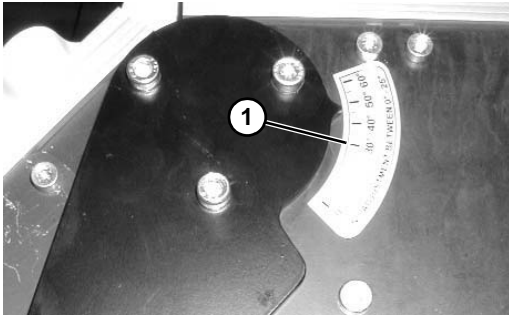

Figure 49
4. Move conveyor to desired angle as indicated by angle label (Figure 49, item 1).